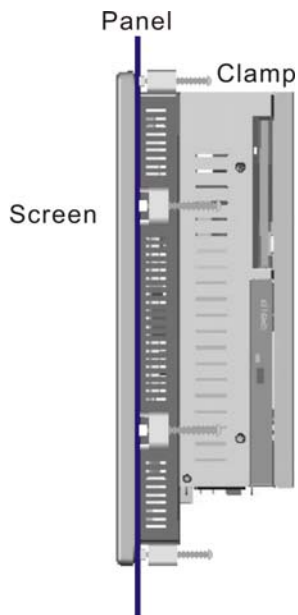

Figure 3-28: Tighten the Panel Mounting Clamp Screws
Step 5: Tighten the screws that pass through the panel mounting clamps until the plastic caps at the front of all the screws are firmly secured to the panel (**Figure 3-28**).